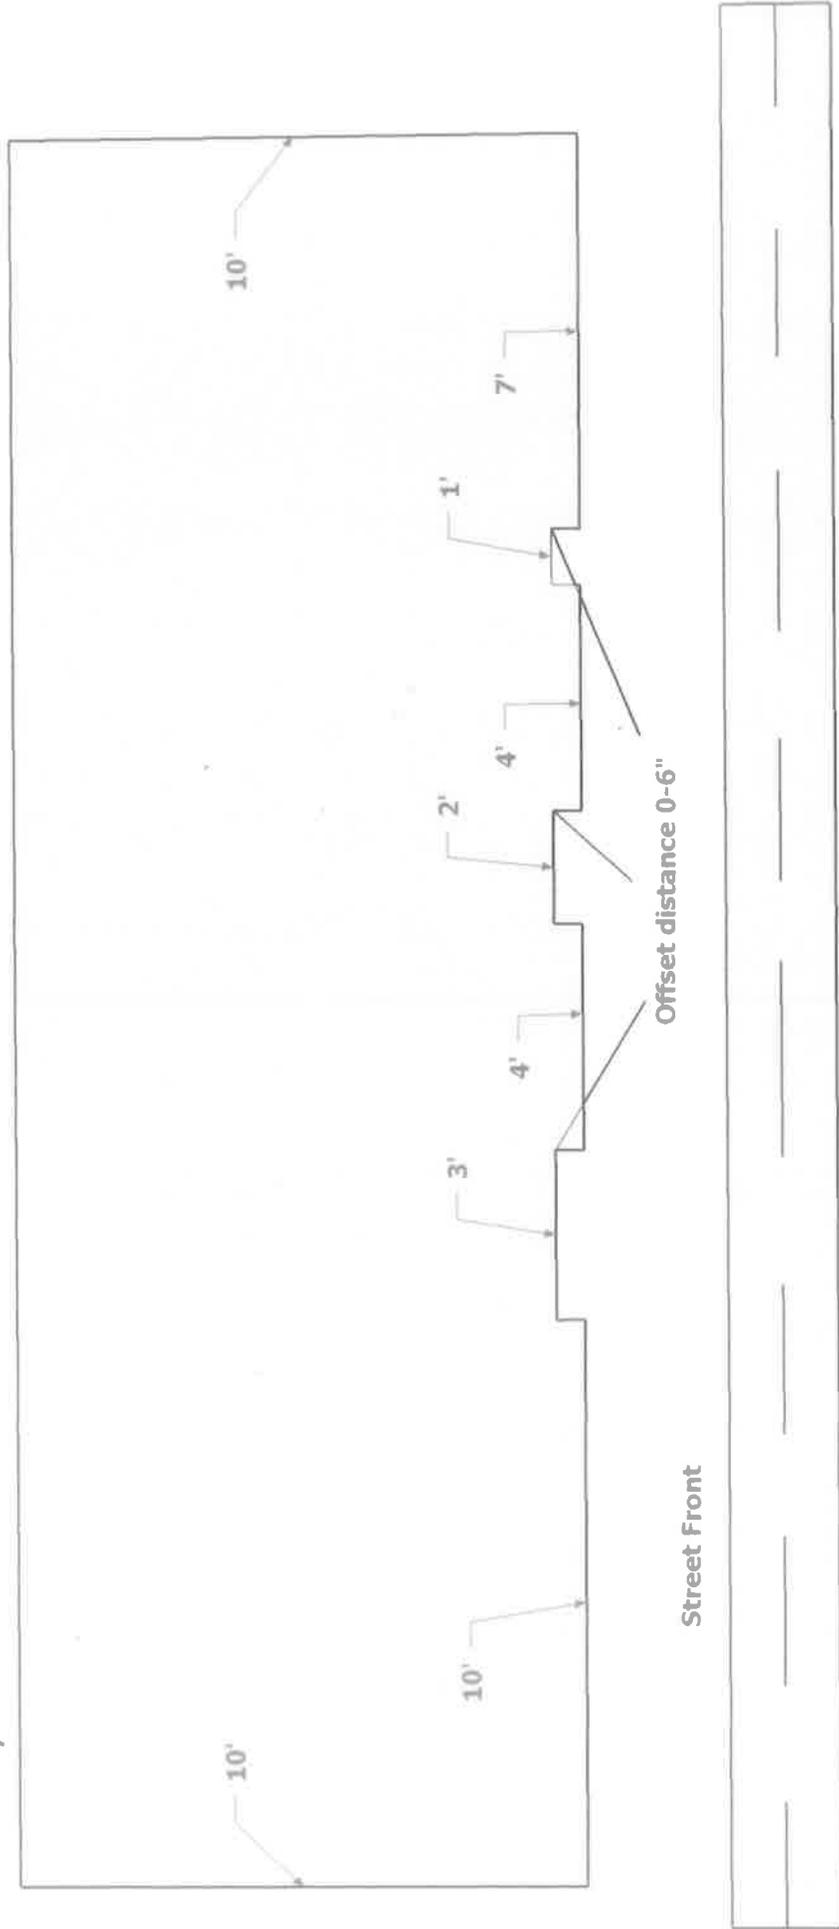

Figure 4
1. **P** = Total surface area of all flat, vertical and/or projected, non-sloping, sides of the building visible from the street (i.e. the flat vertical exterior walls of the building) (see Figure 4) P=_____ sf.
2. **R** = Total surface area of all sloping surfaces of the building that is visible from the street (i.e. roof of building) (see Figure 4) R= _____ sf. For the purpose of the calculation "**R**":